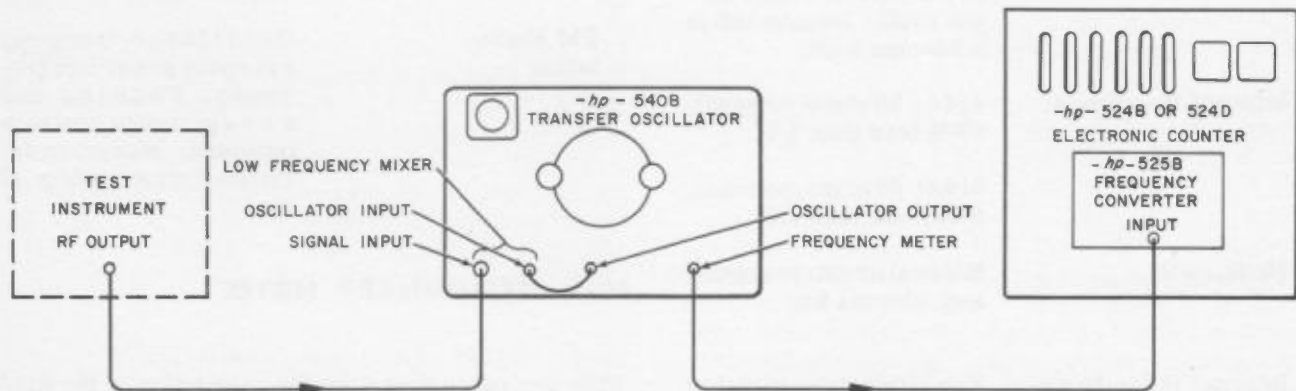

Figure 10-1. Frequency Dial Calibration
- 1) Connect the equipment as shown in Figure 10-1.